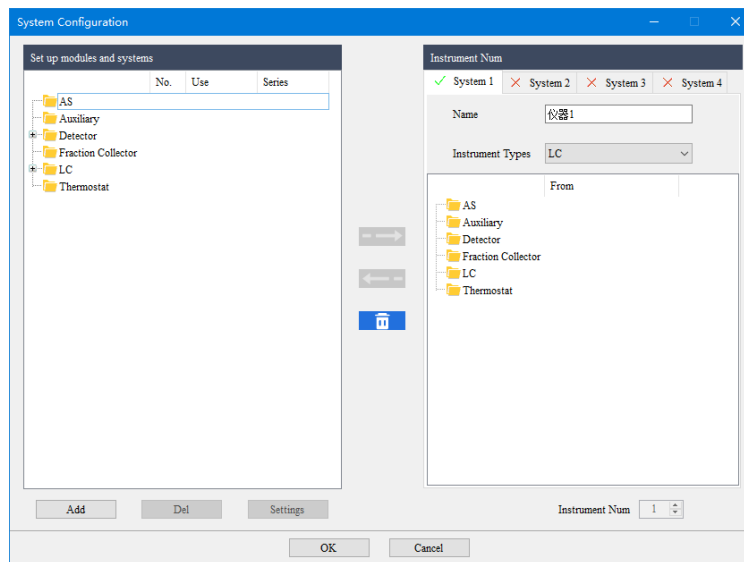

Fig.3-8 Configuration Interface 02
- 2) The system configuration interface is displayed. As shows in Fig 3-8: